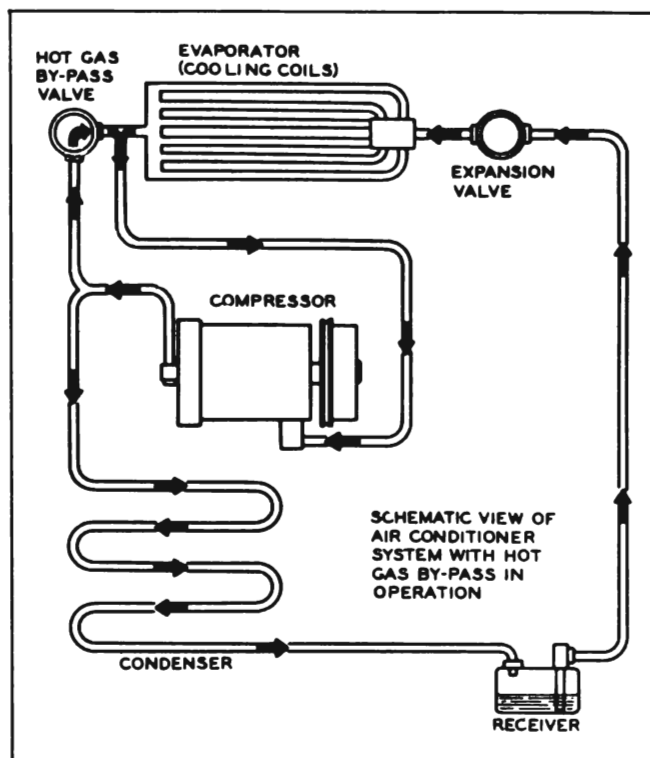

Figure 11-36—Air Conditioning System—Schematic
7. *Hot Gas By-pass Valve.* Figure 11-36 is a schematic view of the operating refrigeration cycle using the hot gas by-pass valve and showing this valve's relative position in the system.